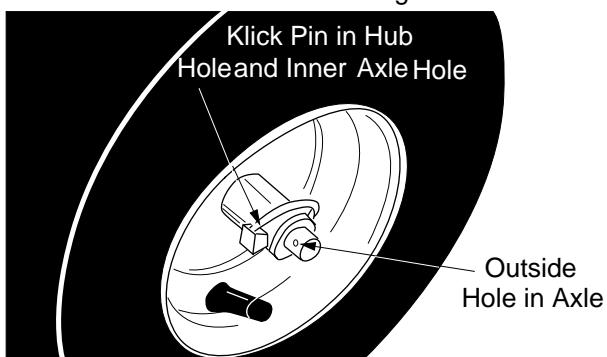

Figure 19
The wheels may be adjusted for two different methods of operation. The adjustment is made by placing the klick pins in one of two different holes on the right side of the unit. See Figure 19.
2. Both Wheels Driving—Rotate wheel assembly to align hole in hub with inner hole on axle shaft. Insert klick pin in hole. Outer axle shaft hole should be visible. See Figure 19.